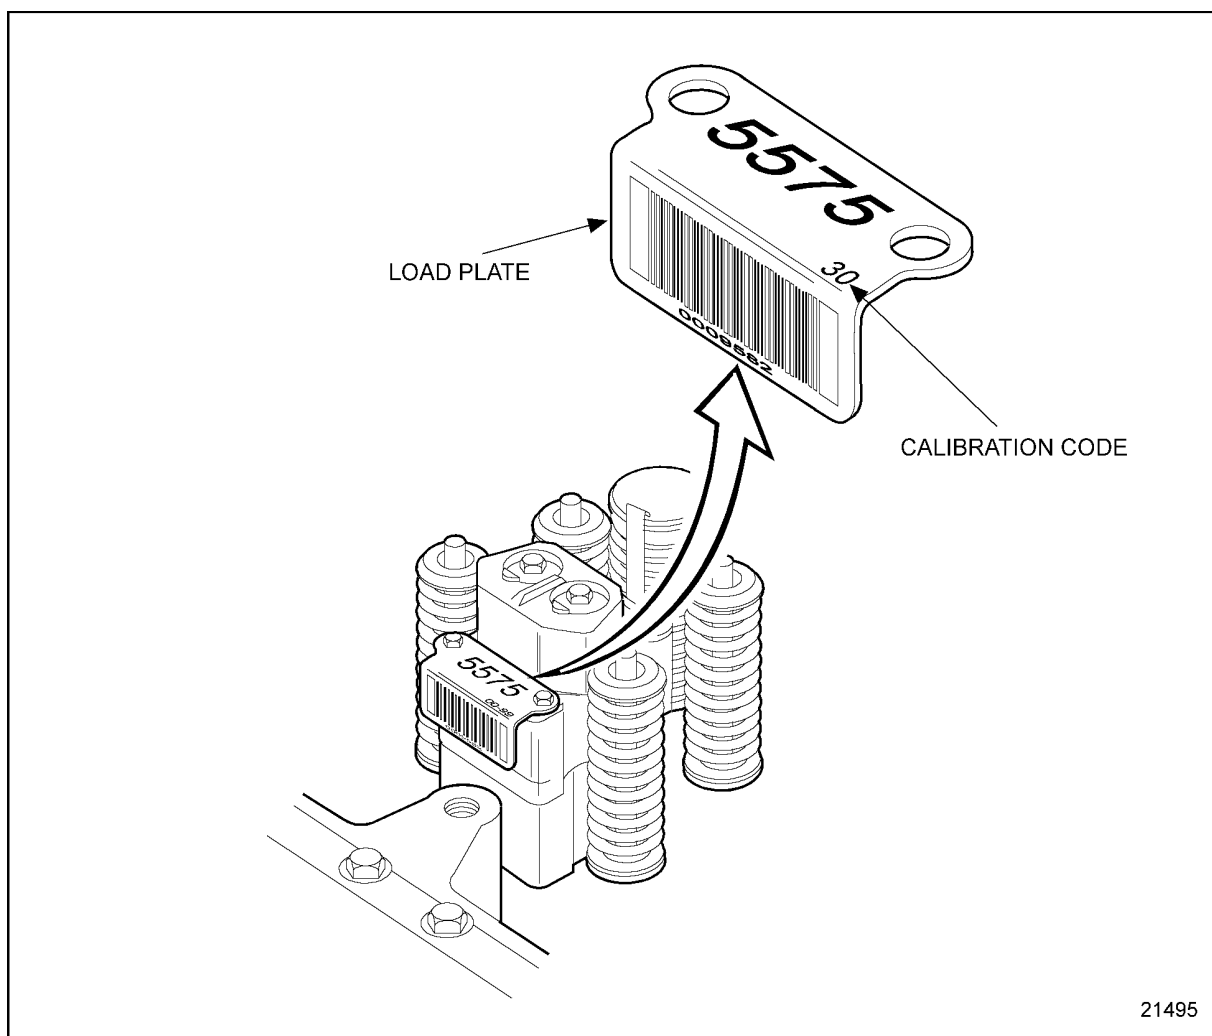

Figure 24-2 **Injector Calibration Code**
- [b] If the calibration code on the display is different than the calibration code on the suspect injector for that cylinder, the injector setting must be reset, see Figure 24-2; refer to Section 24.5.1.